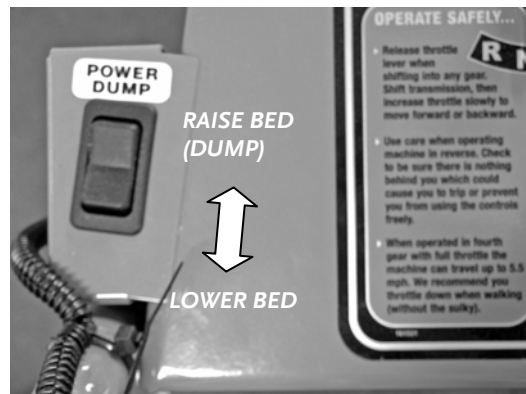

Figure 31
3. Hold Power Dump Switch in the upper position, RAISE BED (DUMP) to raise the Bed (**Figure 31**).